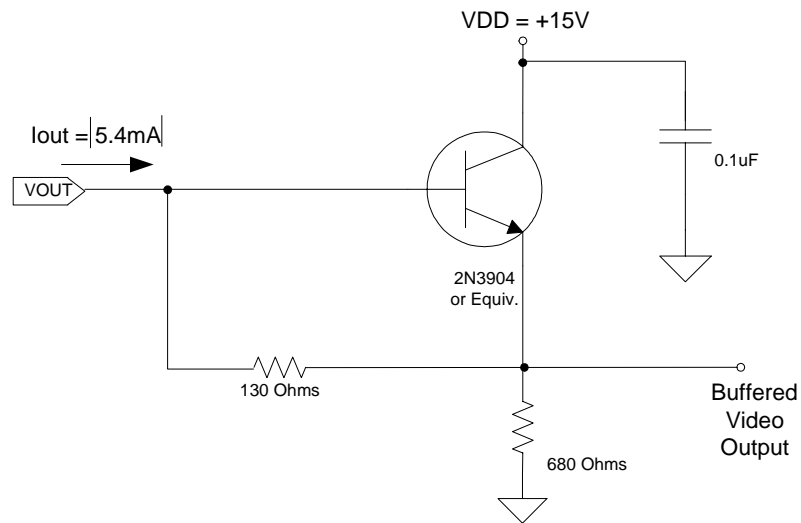

Figure 3: Recommended Output Structure Load Diagram
remove the signal and FD is reset to the potential applied by reset drain (RD). Increased signal at the floating diffusion reduces the voltage seen at the output pin. To activate the output structure, an off-chip load must be added to the VOUT pin of the device. See Figure 3.